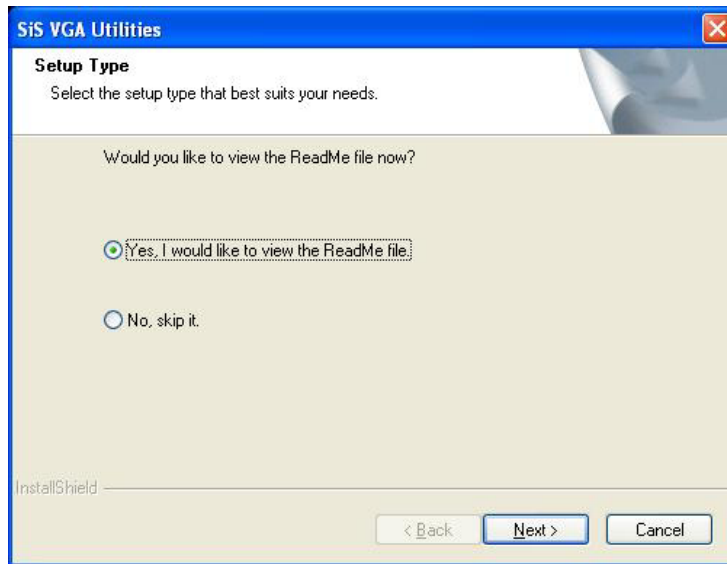

**Figure 6-10: Review Settings**
**Step 3:** Double-click the **3.76logo** sub-folder to view the folder contents on the CD for the VGA driver (**Figure 6-10**).
**Step 10:** Before the files are copied, you can review you selected settings (see **Figure 6-10**). Once you have completed reviewing your settings, click on the **NEXT** button.